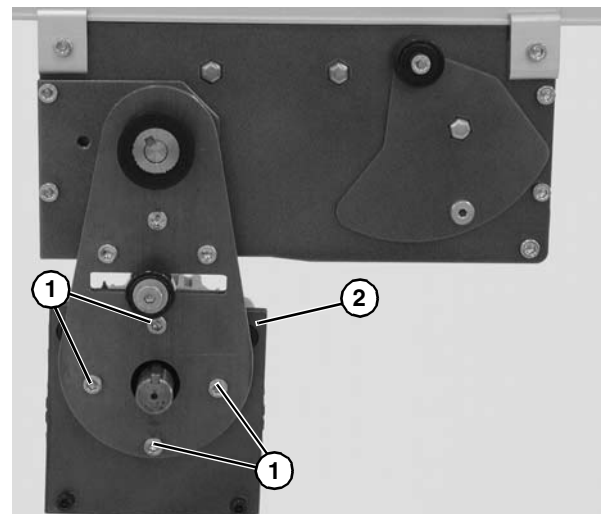
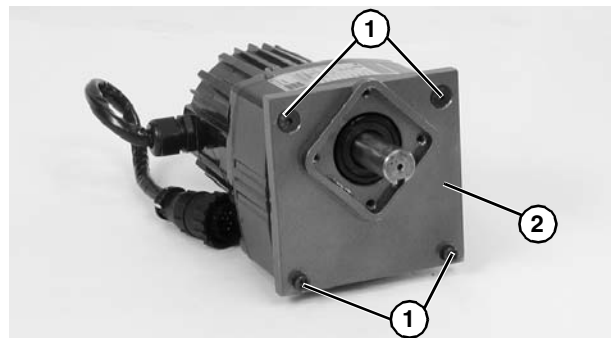
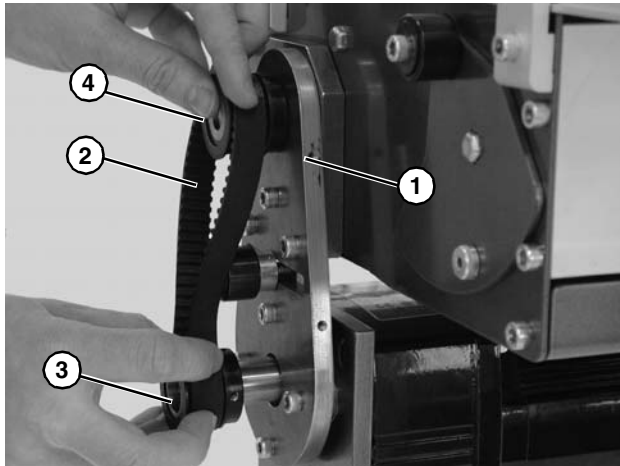

Figure 27
Figure 28
Figure 29
4. Remove four (4) gearmotor mounting screws (**Figure 27, item 1**). Remove gearmotor (**Figure 27, item 2**) with adapter plate.
5. Remove four (4) adapter plate screws (**Figure 28, item 1**). Remove adapter plate (**Figure 28, item 2**).
- Install new gearmotor to adapter plate (**Figure 28, item 2**) and mounting bracket (**Figure 29, item 1**). Tighten screws (**Figure 27, item 1**) to 103 in-lb (12 Nm).
- Wrap timing belt (**Figure 29, item 2**) around drive pulley (**Figure 29, item 3**) and driven pulley (**Figure 29, item 4**). Attach drive pulley (**Figure 29, item 3**) to drive shaft.